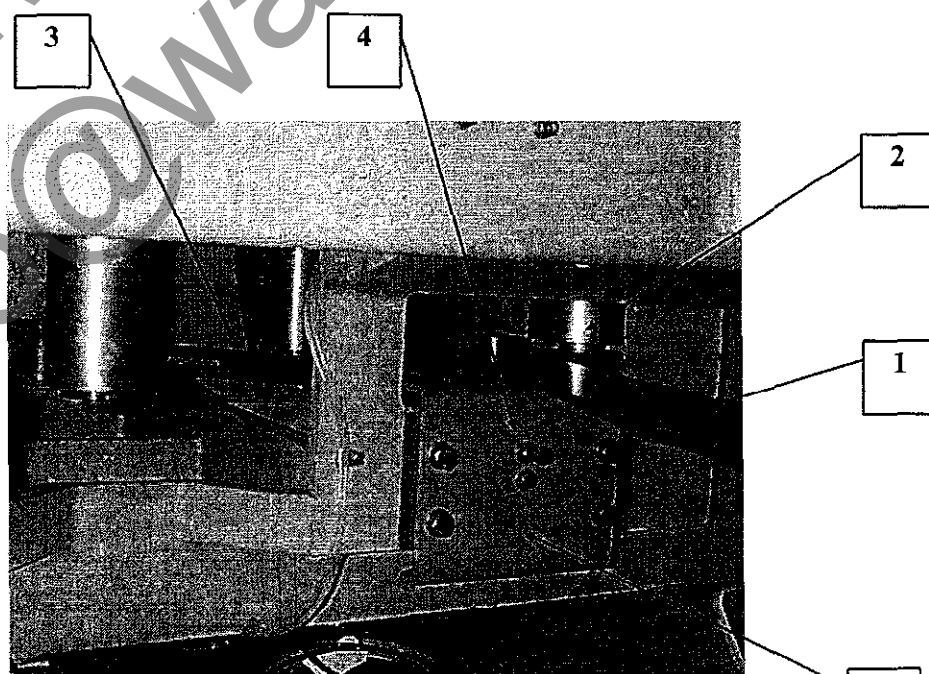

Figure 7.3.3
### 7.3.3 Removal of K23/K25 Vertical Spindles (Fence and Near Side Head) (Figure 7.3.3.)
4. Place the supplied lever tool (( 1 )Figure 7.3.3.) with the hole in the tool fitting over the idle belt roller pivot.
8. Turn the spindle to check the belt is running true and equal on the pulleys. The idle roller may need to be pitched by adjusting the pivot screw (refer to (4) figure 7.3.3) to achieve this.
9. Tighten the locking screw (refer to (5) figure 7.3.3) once the belt has been trued in relation to the motor pulley.